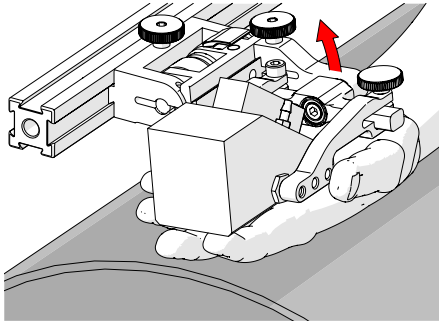

Fig. 121 - Lift to latched position
1. Ensure probe holder is in latched, upper position (Fig. 121). If the probe holder is already latched, it will only move within the slip joint adjustment range and have no spring tension.
1. Ensure the probe holder is in the upright latched position (Fig. 121).